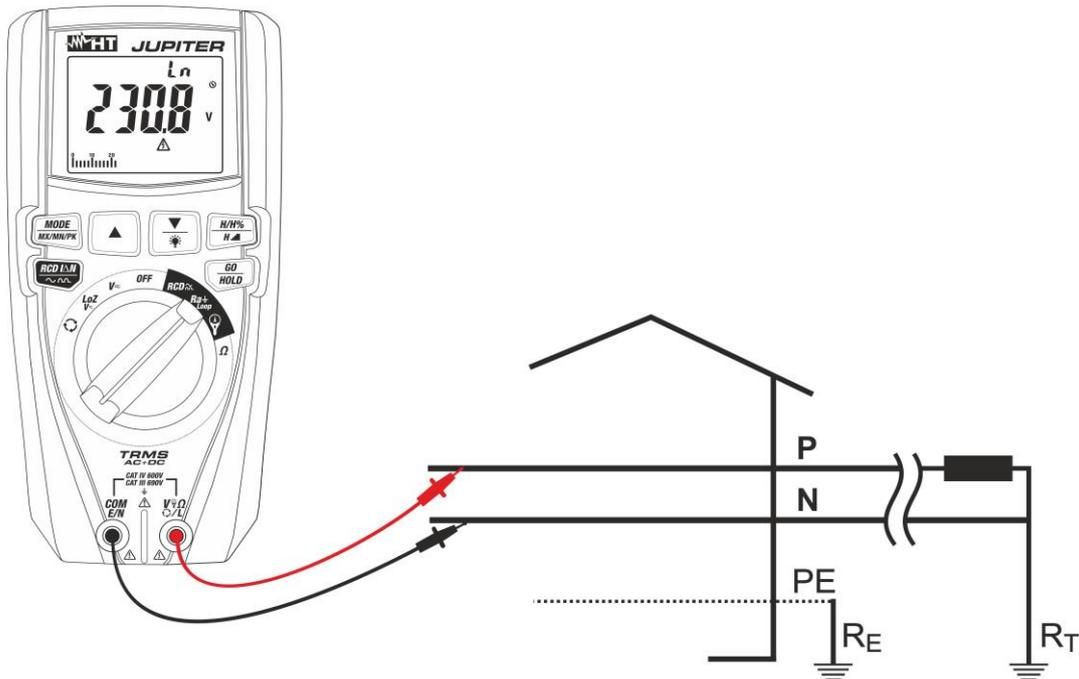

Fig. 26: Use of the instrument for measuring Loop L-N impedance with leads
8. **For Loop L-N measurements**, in case measuring leads are used, insert the red conductor into input terminal **V Ω L** and the black conductor into input terminal **COM/E/N** and connect the instrument to the system to be tested (see Fig. 26). The value of phase-to-neutral voltage is shown on the display